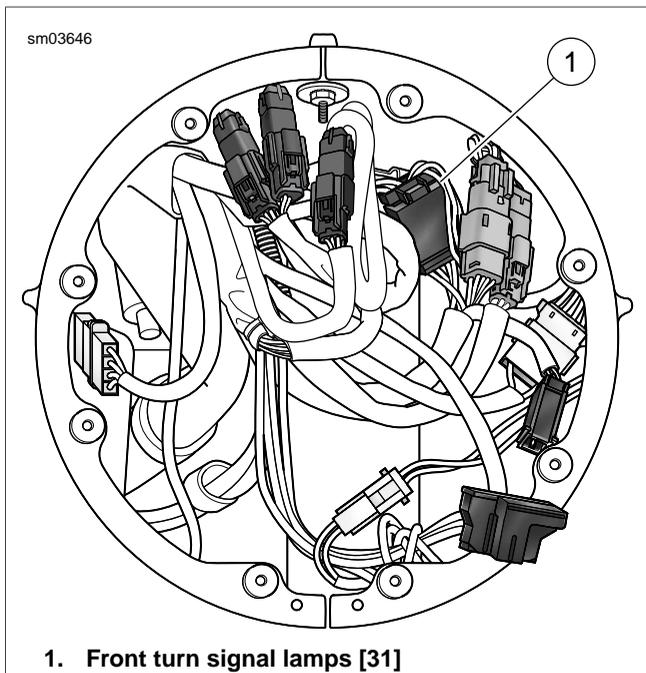

Figure 8-47. Headlamp Nacelle (FLHR/C)
- FLHR/C:** Remove headlamp assembly. See 8.9 HEAD-LAMP: ALL EXCEPT FLTR. See Figure 8-47. Disconnect front turn signal lamps connector [31], 6-place Multilock, anchored in hole of fork stem nut lockplate (left side).
- FLHR/C:** Install anchor on connector into hole of fork stem nut lockplate (left side). See Figure 8-47. Install headlamp assembly. See 8.9 HEADLAMP: ALL EXCEPT FLTR.